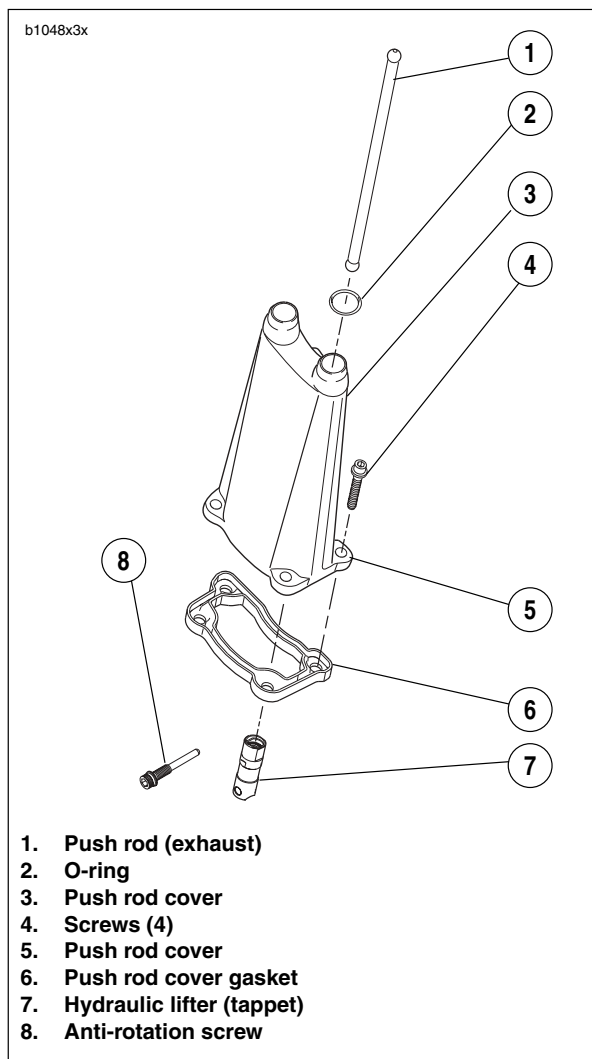

Figure 3-125. Valve Lifter Service
3. See Figure 3-125. Remove push rod covers.
5. See Figure 3-125. Install push rod cover.